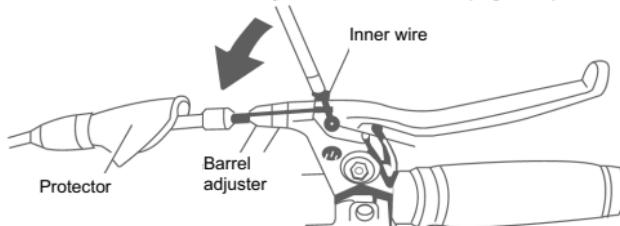

Figure 7
- 1-2 The bicycle must stop fully when the lever is pulled halfway to the handlebar. If the bicycle stops only when the lever is pulled very close to the handlebar, it means the gap between brake pads and wheel rim is too wide. Adjustment is needed. (Figure 7)